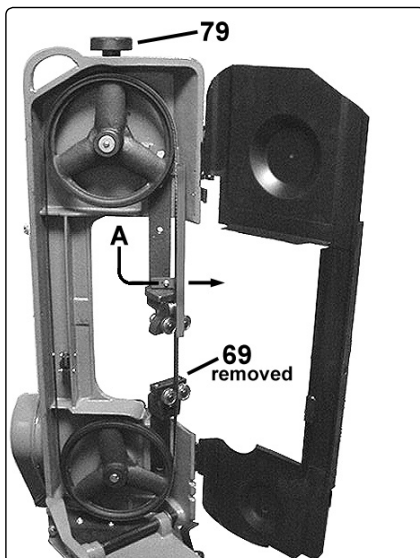

fig.21
- **WARNING!** Refit blade guard (69), see fig.21, before using saw for horizontal cutting.
7.2.2. Open the blade back safety panel by removing the screw (58) and hinge it open as shown in fig.21.
7.2.3. Before the blade can be removed release the tension on the blade by turning the blade tension knob (79), see fig.21, anticlockwise.
7.2.7. Begin to tension the blade by turning the knob (79), see fig.21, clockwise but as you do so make sure that the back edge of the blade is seated against the rim of both pulleys. Check that the blade is seating properly by turning the upper pulley by hand (using the three spokes of the wheel) until you have observed a full rotation of the blade.
7.2.9. Replace the lower blade guard (69), see fig.21, and move the upper blade guide back into its position over the blade.